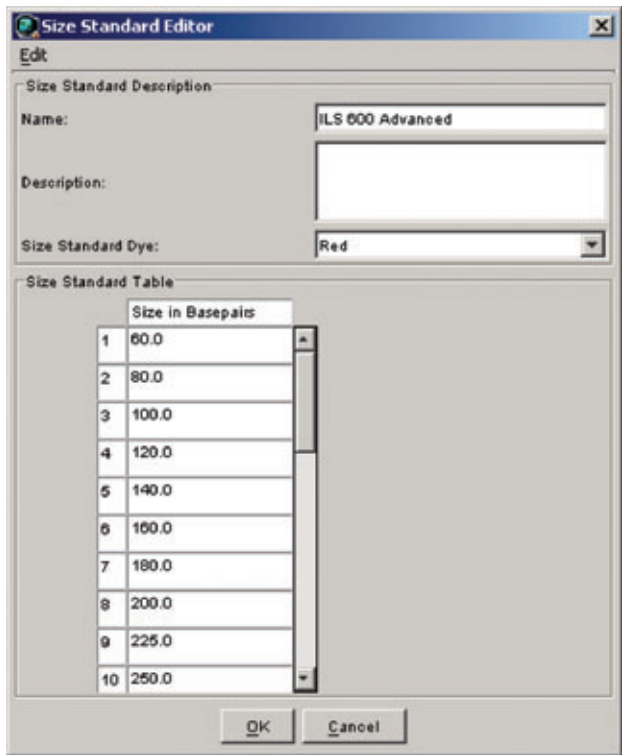

Figure 6. The Size Standard Editor.
5. Enter a detailed name such as "ILS 600 advanced" in the Size Standard Editor (Figure 6).